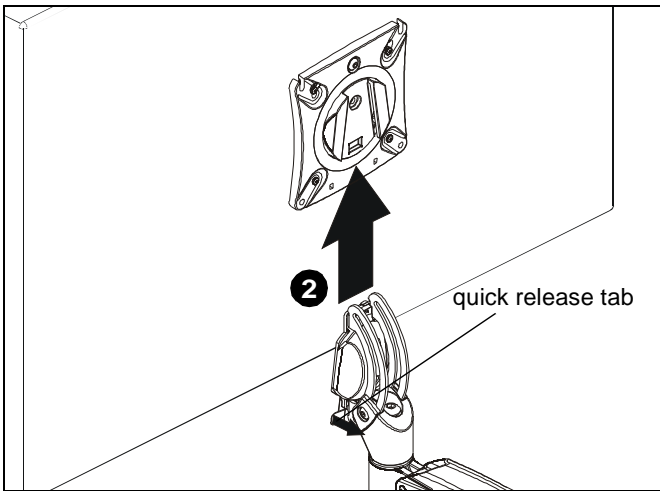

Figure 22
**⚠ WARNING:** Only remove display from mount when the display can be lifted up from the mount! DO NOT remove display unless the display is in the upright position! (See Figure 22)
2. Remove quick release faceplate from mount by pulling quick release lever and sliding faceplate off mount. (See Figure 22)